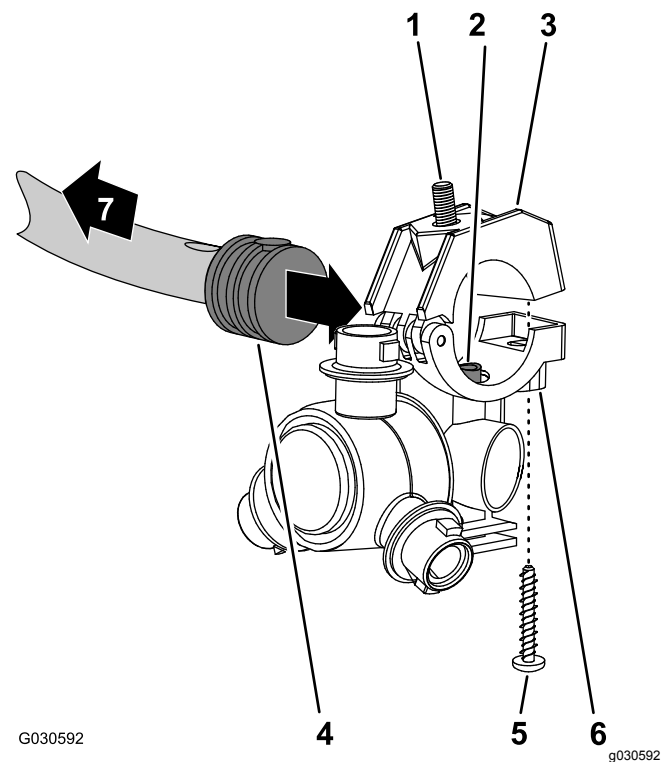
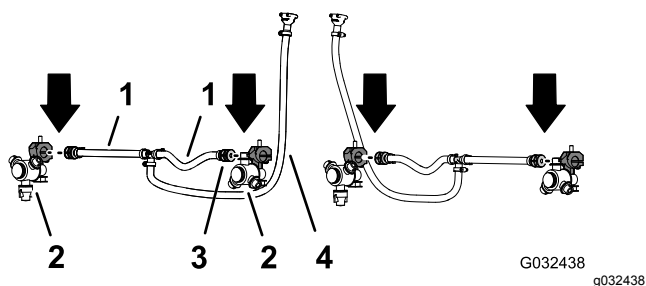

Figure 57
Figure 58
2. Working with the 2 sprayer nozzle from the GeoLink spray system finishing kit, remove the stainless steel screw that secures the upper clamp half to the saddle (Figure 57).
3. Locate the hole in the side of single barbed-hose shank at the end of the hose 25 cm (10 inches) of the hose assembly (sprayer valve 5 or 6) for the center-spray section (Figure 57 and Figure 58).
4. Align the transfer tube in the saddle of a sprayer nozzle (Figure 57) with the hole in the side of the single barbed-hose shank (1/2 inch).
5. Close the upper clamp half around the barbed-hose shank and secure the clamp half and spray-nozzle body (Figure 57) with the stainless steel screw (#12 x 1-1/4 inches); torque the stainless steel screw to 14 to 18 N·m (20 to 25 in-lb).
6. Working with the sprayer nozzle, hex-head bolt, and stainless steel screw that you removed in steps 1 and 2 of Removing the Sprayer Nozzles \(page 26\), repeat steps 3 through 5 to the single barbed-hose shank (Figure 57 and Figure 58) at the end of the other hose 25 cm (10 inches).
7. Working with the 2 sprayer nozzles that you removed in step 4 of Removing the Sprayer Nozzles \(page 26\), repeat steps 3 through 5 to the single barbed-hose shanks of the other hose assembly (sprayer valve 5 or 6) for the center-spray section (Figure 57 and Figure 58).